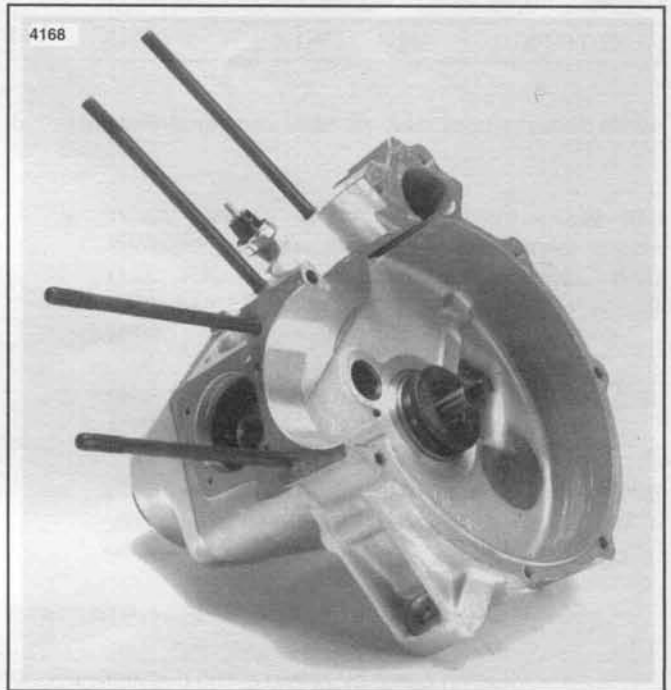

Figure 3-62. Line Reamer in Cover Bushing
1. See Figure 3-62. To ream pinion shaft bushing, insert reamer pilot in right crankcase roller race. Insert 0.563 in. PINION SHAFT COVER BUSHING REAMER, Part No. HD-94805-57, through pilot and push into cover bushing until it bottoms, then give reamer one complete turn to size bushing. Rotate reamer the same direction (clockwise) during extraction.